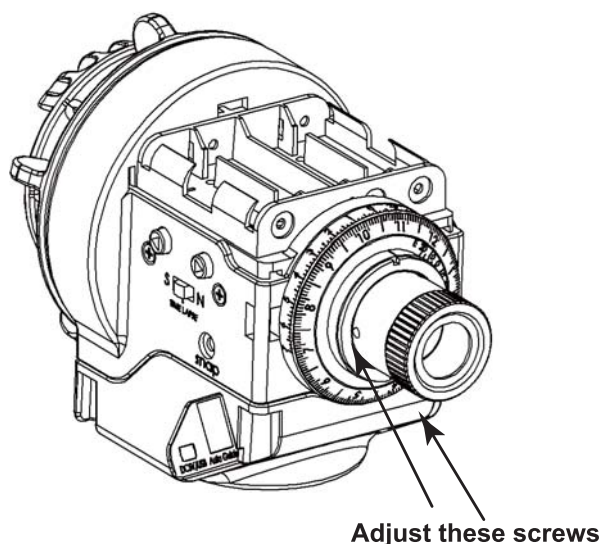
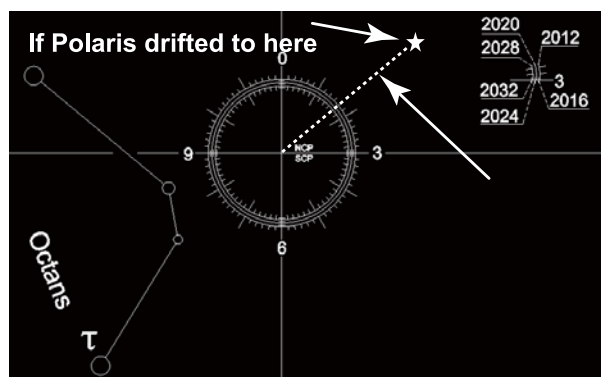

Fig 28
Fig 29
4. If, during rotation, you see the object wandering off, calibration is needed. You should rotate the **Star Adventurer** to find the point where the object is at the biggest distance from the crosshair center, and then you should move the crosshair halfway towards the object(Fig 29), using the 3 tiny adjustment screws on the side of the polar scope(Fig 28). A 1.5mm Allen wrench is needed.